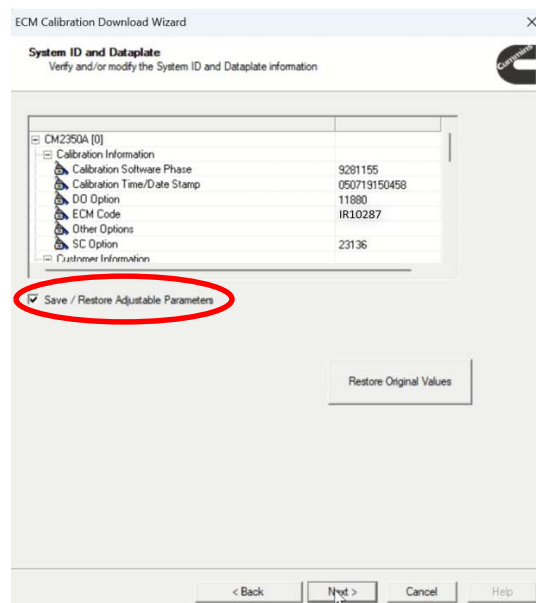

Figure 28
37. Verify the Save/Restore Adjustable Parameters has a check mark. Select Next. See figure 28.